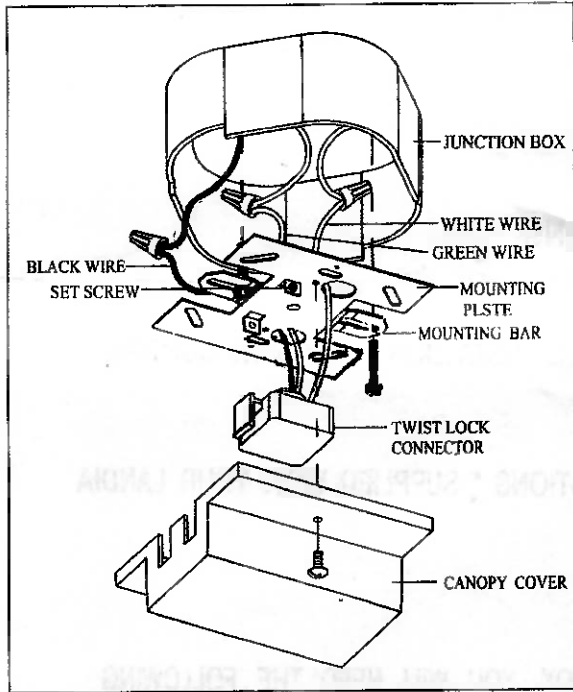

FIGURE 1
TO CONNECT YOUR TRACK SECTION TO A JUNCTION BOX. YOU WILL NEED THE FOLLOWING PARTS ( INCLUDED ) IN FIGURE 1 THE PARTS A & B & C ARE:
- (1) BE SURE THAT THE ELECTRICITY TO THE JUNCTION BOX HAS BEEN TURNED OFF.
- (2) LOOSEN THE SCREWS ON THE CANOPY.
- (3) FEED ALL 3 WIRES ON TWIST LOCK CONNECTOR THROUGH HOLES IN METAL MOUNTING PLATE WITH 2 GROUPS ( WHITE & GREEN WIRES THROUGH ONE HOLE, BLACK WIRE THROUGH ANOTHER HOLE )
- (4) ( REFER TO FIGURE 1 ) CONNECT THE BLACK WIRE FROM THE JUNCTION BOX TO THE BLACK WIRE OF THE TWIST LOCK CONNECTOR (A), USING WIRE CONNECTOR ( PROVIDED )
- (5) ( REFER TO FIGURE 1 ) CONNECT THE WHITE WIRE FROM THE JUNCTION BOX TO THE WHITE WIRE OF THE TWIST LOCK CONNECTOR (A), USING WIRE CONNECTOR ( PROVIDED )
- (6) ( REFER TO FIGURE 1 ) CONNECT THE GREEN GROUNDING LEAD IF AVAILABLE. FROM THE JUNCTION BOX TO THE GREEN GROUNDING WIRE OF THE TWIST LOCK CONNECTOR (A), USING WIRE CONNECTOR ( NOT PROVIDED ). IF THERE IS NO GREEN GROUNDING WIRE AVAILABLE FROM THE JUNCTION BOX, ATTACH THE GREEN GROUNDING WIRE FROM THE TWIST LOCK CONNECTOR TO ANY AVAILABLE SCREW ON THE JUNCTION BOX. MOUNTING BAR CAN ROTATE
- (7) AFTER ALL CONNECTIONS ARE MADE, THE WIRES SHOULD BE ARRANGED SO THAT THE GREEN AND WHITE WIRES ARE ON ONE SIDE OF THE JUNCTION BOX AND THE BLACK WIRES ARE ON THE OTHER SIDE
- (8) ( REFER TO FIGURE 1 ) ATTACH THE MOUNTING BRACKET TO THE JUNCTION BOX USE THE SCREWS PROVIDED WITH THE JUNCTION BOX.
- (9) ATTACH TRACK TO CEILING IN DESIRED POSITION, USING EITHER TOGGLE BOLTS OR WOOD SCREWS WITH WALL ANCHORS ( PROVIDED ). TRACK MUST BE POSITIONED BETWEEN TWO SCREWS ON METAL MOUNTING PLATE.